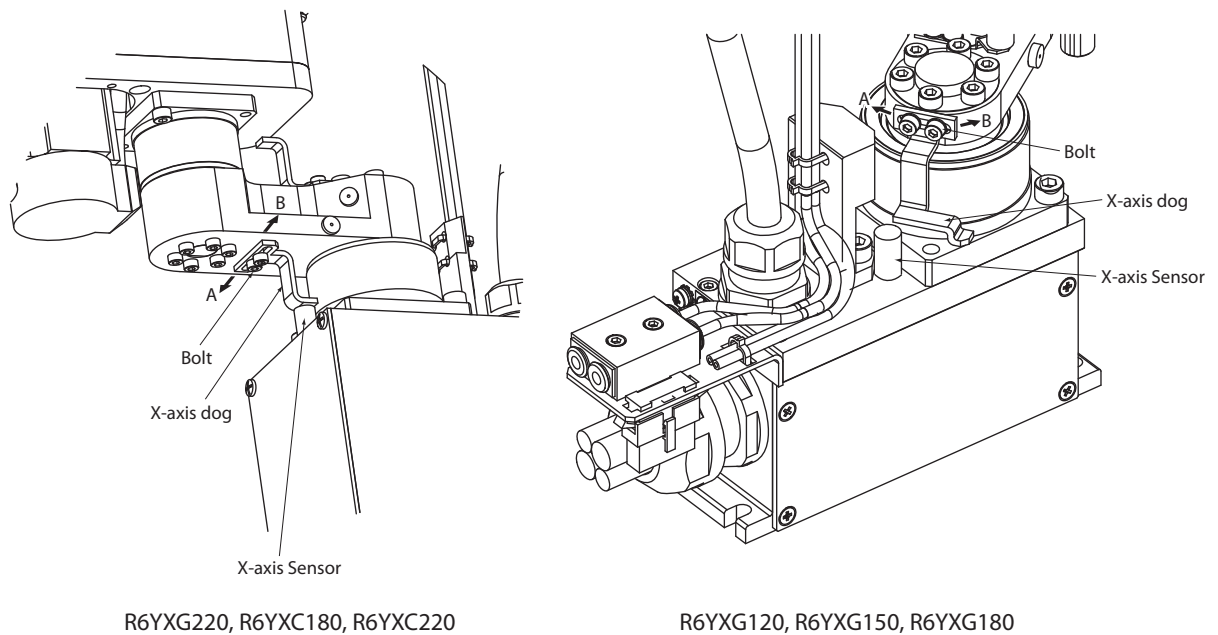

Fig. 4-13 Adjustment of X-axis machine reference
- 8) Using a hex wrench, loosen the bolts (2 pieces) securing the X-axis dog. (See Fig. 4-13.)